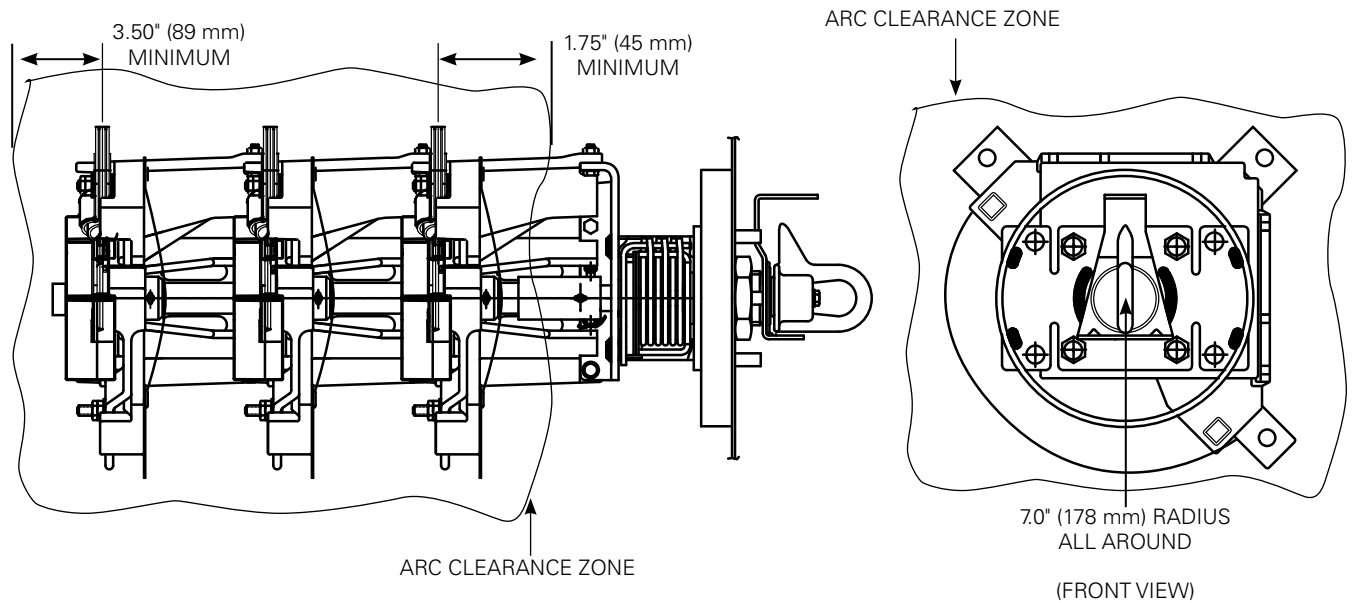
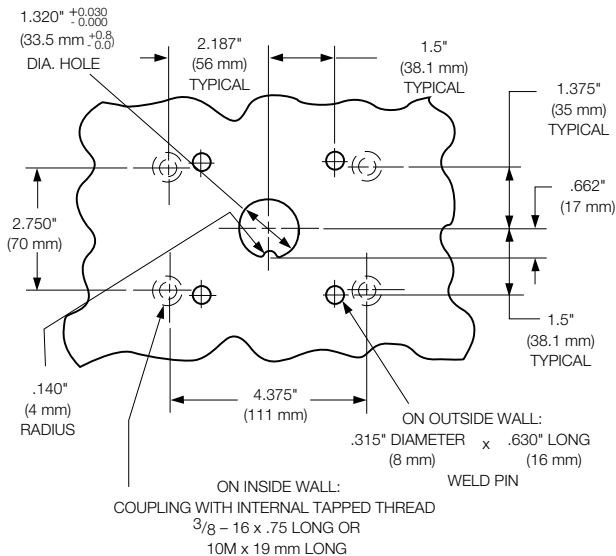

Figure 6. Arc clearance zone.
Figure 8. Hole and coupling placement detail (required for Bolt-In design).
3. Optional padlock handle is available. See catalog section CA800005EN, Table 6 and Figure 6.
Note: The tank wall should have a 1.325 (34 mm) diameter hole with an anti-rotation key, (refer to Figure 8). Switch should be located to ensure recommended clearances in Figure 6 are maintained.
1. Switch should be mounted to four (4) couplings on the inside of the tank wall (refer to Figure 6 for coupling pattern) using 3/8" x .75" (10M x 19 mm, if metric couplings are being used) long bolts with lock washers, (not supplied).
Note: The tank wall should have a 1.325" (34 mm) diameter hole with an anti-rotation key (refer to Figure 8). Switch should be located to ensure recommended clearances in Figure 6 are maintained.
The outline drawing shown in Figure 6 describes the switch and its application to oil-filled apparatus. This information should be used only by trained personnel familiar with the design requirements for oil-filled apparatus. This information is not intended as a substitute for adequate training and experience in such design. Should clarification or further information be required for the user's purposes, contact your Eaton representative.
All energized parts of the switch must be under oil and spaced away from other energized parts or ground with sufficient distance to withstand all operating and test voltages. In order for proper switch operation to occur, an arc clearance zone is required around the switch. This zone should be under oil and free of all foreign materials. See Figure 6.